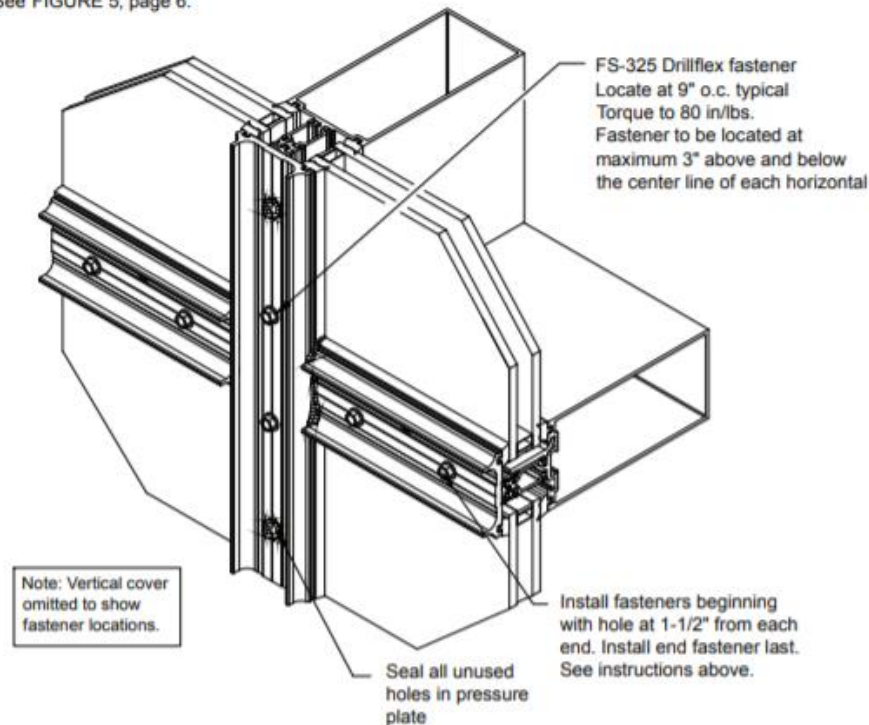

FIGURE 3
2.1 When installing AW-162 FRP pressure plate follow all standard installation steps as noted in appropriate Reliance™ system installation and glazing manual. Install fasteners located at 1-1/2" from each end first, then end fasteners in pressure plates last, be sure to hold firm pressure on pressure plate while installing the FS-325 fasteners to prevent pressure plate from pulling away from face of system and disengage the thermal isolator. Torque fasteners to 80 in/lbs. Fasteners will be located at a maximum of 9" on center. Fastener location may vary based on project specifications, so consult shop drawings for additional information. Additional fasteners should be added where needed to insure a fastener is located above and below each horizontal. See FIGURE 3
2.2 All unused holes in vertical and horizontal pressure plates must be sealed. See FIGURE 3